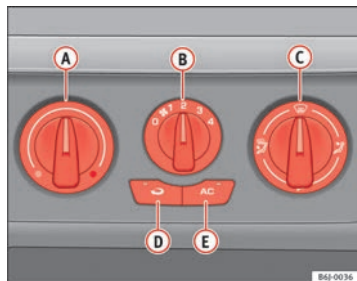

Fig. 94 Air conditioning controls on the dash panel
- Disconnect the cooling system using button ⇒ fig. 94 **AC** (the button light turns off).
When air recirculation mode is switched on (button ⇒ fig. 94  with warning lamp) strong odours in the outside air do not enter the vehicle interior, for example when passing through a tunnel or in a traffic jam.